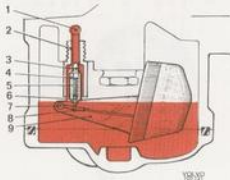

Fig. 2-92. Float system
Fuel flows into the floatchamber through the float valve (4, Fig. 2-92). The float (9) is journaled on a float spindle (7). When the fuel level rises, the float lifts and at the proper fuel level the float valve is shut off by the float tab.